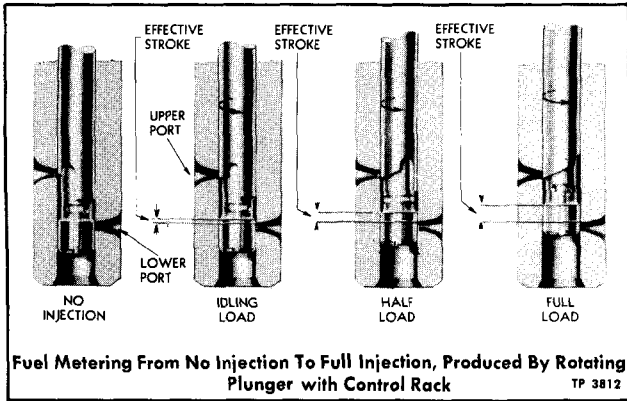
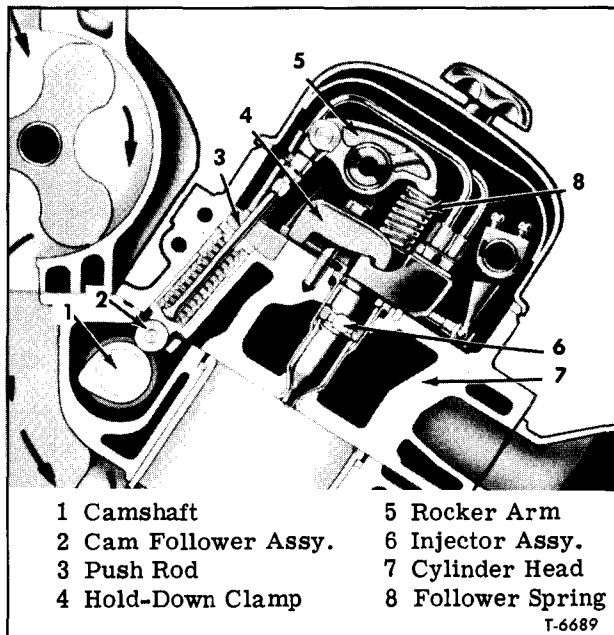

Figure 12—Fuel Metering Position from No-Load to Full-Load
Figure 15—Fuel Injector Installed (Typical "V" Engine Shown)
Metering of the fuel is accomplished by an upper and lower helix machined in the lower end of the injector plunger. Figure 12 illustrates the fuel metering from NO-LOAD to FULL-LOAD by rotation of the plunger in the bushing.
The motion of the injector rocker arm is transmitted to the plunger by the follower which bears against the follower spring (fig. 15). In addition to the reciprocating motion, the plunger can be rotated, during operation, around its axis by the gear which meshes with the rack. For metering the fuel, an upper helix and a lower helix are machined in the lower part of the plunger. The relation of the helixes to the two ports changes with the rotation of the plunger (figs. 12 and 13).
Changing the position of the helixes, by rotating the plunger, retards or advances the closing of the ports and the beginning and ending of the injection period. At the same time, it increases or decreases the amount of fuel injected into the cylinder. Figure 12 shows the various plunger positions from NO-LOAD to FULL-LOAD. With the control rack pulled out all the way (no injection), the upper port is not closed by the helix until after the lower port is uncovered. Consequently, with the rack in this position, all of the fuel is forced back into the supply chamber and no injection of fuel takes place. With the control rack pushed in (full injection), the upper port is closed shortly after the lower port has been covered, thus producing a maximum effective stroke and maximum injection. From this no injection position to full
2. Remove the fuel lines from both the injector and the fuel connectors (fig. 15).
1. Refer to figure 15 and insert the injector into the injector tube. Be sure the dowel pin in the injector body registers with the dowel pin hole in the head. Next, position the injector rack control lever so the lower end of the lever engages the injector rack.